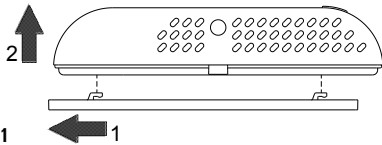

Fig. 1
- 1 Release the plate attached to the controller base by pushing it to the left. This releases the teeth shown in Fig. 1.